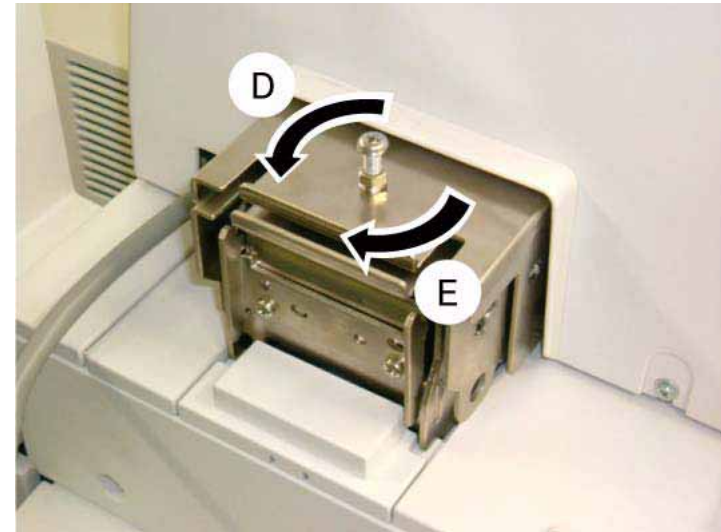

Figure 3 DADF Right Front Foot height adjustment
2. To adjust the clearance between the DADF right front foot and the Platen Glass (which should be 0.5 mm or less), loosen the nut of the Right Counter Balance and turn the screw in the directions shown in the figure. Figure 3